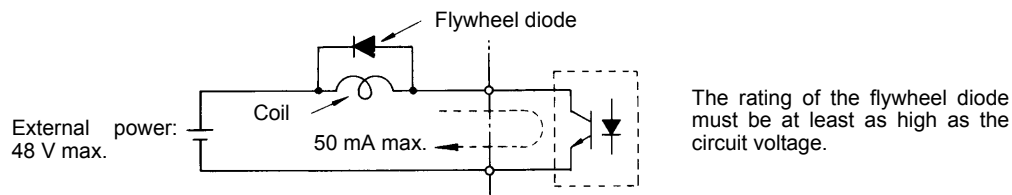

Fig 2.14 Flywheel Diode Connection
* 2. When driving a reactive load, such as a relay coil, always insert a flywheel diode as shown in Fig 2.14.